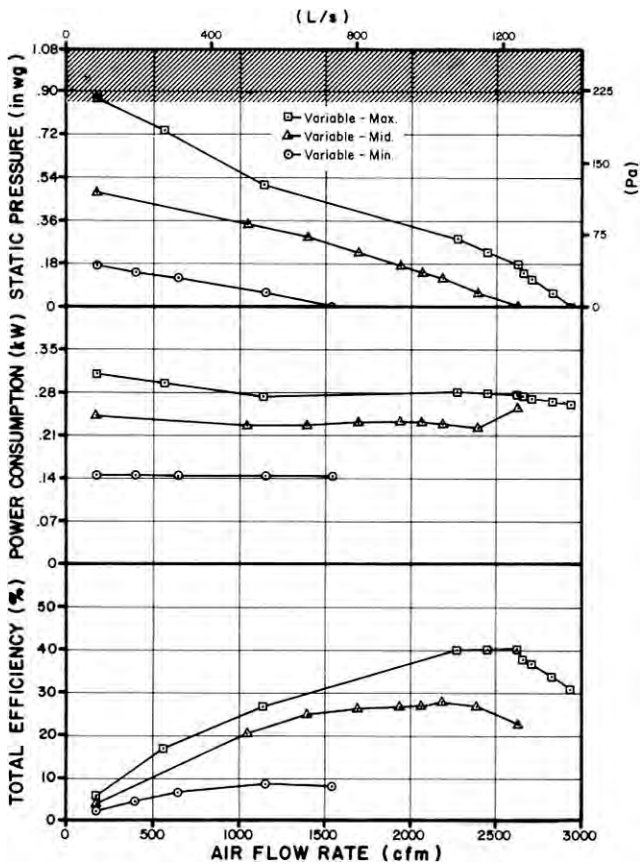

FIGURE 3. Agrifan 16" Fan Performance Curves.
**Air Flow Rate:** Fan output in both the single speed mode and at the maximum setting on the variable speed control were similar (FIGURE 3). Reducing the fan speed greatly reduced the air flow rate for a given static pressure2. For example, at a static pressure of 0.125 in wg (31.1 Pa), reducing the speed from maximum to mid-range to minimum setting reduced the air flow rate from 2710 cfm (1280 L/s) to 2150 cfm (1010 L/s) to 583 cfm (275 L/s) respectively. At higher static pressures the reductions were even larger.
varied from 0.248 to 0.270 kW in the single speed mode, from 0.262 to 0.281 kW at maximum speed, from 0.224 to 0.258 kW at mid-range and was 0.144 kW at minimum speed. The maximum amperage drawn by the motor was 1.27 amps, which was greater than the rated motor amperage of 1.1 amps plus the +/-10% allowable limit established by CSA Standards. The shaded zone in FIGURE 3 illustrates operation levels where the rated motor amperage was exceeded. Prolonged operation in excess of rated amperage could reduce motor life.